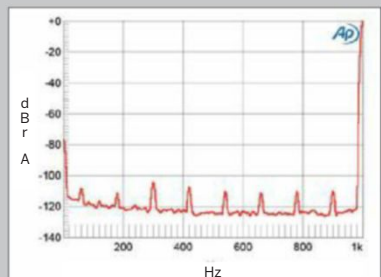

Fig.4 Moon 888, spectrum of 1kHz sinewave, DC-1kHz, at 1W into 8 ohms (linear frequency scale).
noise floor at the 60Hz power-supply frequency and its odd harmonic, but these all lay at or below -106dB ref. 1W into 8 ohms (0.0005%, fig.4).